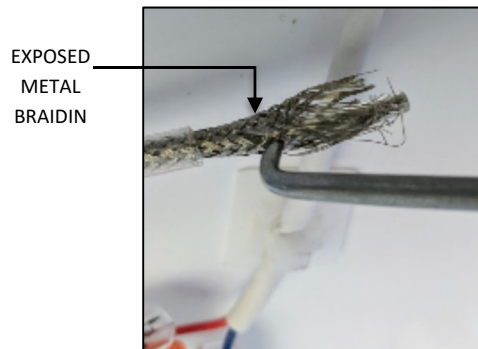
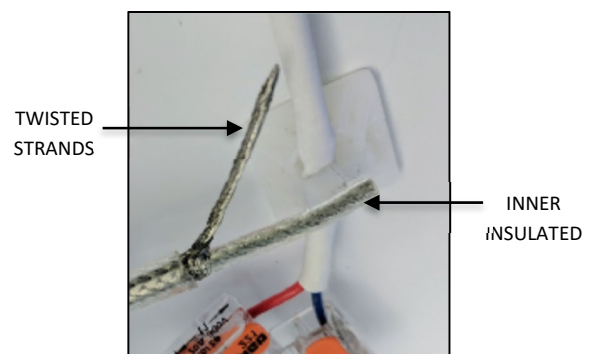

FIG. 26
FIG. 27
2. Using a small pointed object, begin unweaving the exposed metal braiding as shown in FIG. 26 below. Position the unwoven metal strands on one side of the inner insulated wire and twist the individual strands together as shown in FIG. 27 below.